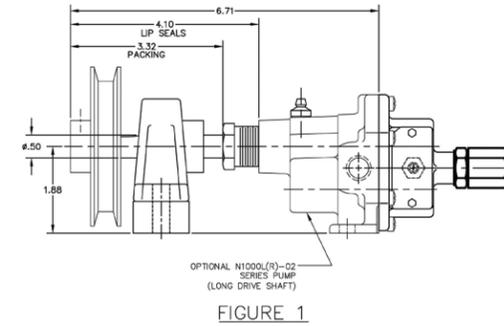

FIGURE 1
- 1) When space is an issue, use an optional “long shafted” pump and add a properly shimmed pillow block bearing (see figure 1).